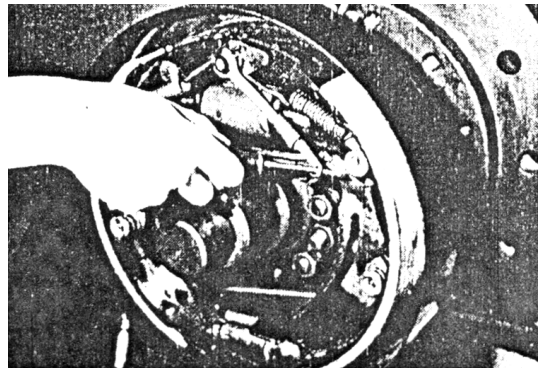

Fig. 8-25
(9) Install the clearance self-adjuster, adjuster spring, and push rod and its return spring. (See Fig.8-25)